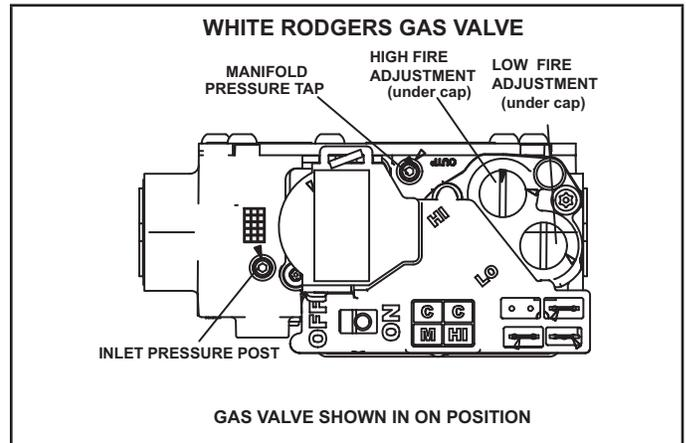

FIGURE 51
Gas Valve Operation (FIGURE 51)
- 6 - Move gas valve switch to **OFF**. See FIGURE 51.
- 8 - Move gas valve switch to **ON**. See FIGURE 51.
An inlet pressure post located on the gas valve provides access to the supply pressure. See FIGURE 51. Back out the 3/32 hex screw one turn, connect a piece of 5/16 tubing and connect to a manometer to measure supply pressure. See table 28 for supply line pressure.
A manifold pressure post located on the gas valve provides access to the manifold pressure. See FIGURE 51. Back out the 3/32 hex screw one turn, connect a piece of 5/16 tubing and connect to a manometer to measure manifold pressure.
- 4 - After allowing unit to stabilize for 5 minutes, record low fire manifold pressure and compare to value given in TABLE 28. If necessary, make adjustment. FIGURE 51 shows location of low fire adjustment screw.
- 5 - Repeat on high fire and compare to value given in TABLE 28. If necessary, make adjustment. FIGURE 51 shows location of high fire adjustment screw.